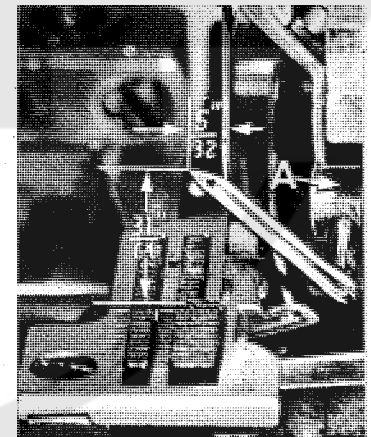

Fig. 10
Next, turn handwheel until looper is at the left end of its travel; check dimensions of upper looper point with respect to needle and throat plate (Fig. 10). If resetting is necessary, do it by moving the upper looper holder (A, Fig. 10). Figure 10 represents the dimensional setting for Styles 39500 FA, FB, GS, JE and JG.
If it becomes necessary to move looper thread pull-off (AF), be sure to take up all end play in needle drive shaft before tightening. If upper looper is located so that it is higher over throat plate than recommended in Fig. 10, the purl will tend to form near top edge. If upper looper is too low, the purl will form nearer bottom edge.